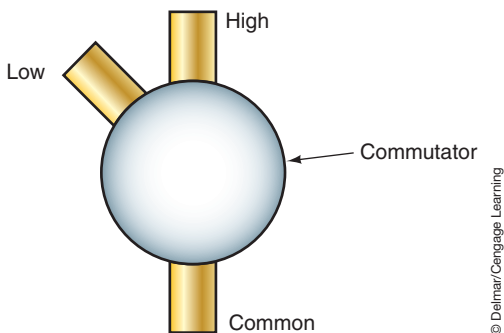

FIGURE 14-10 One style of brush arrangement has the high-speed brush opposite of the common brush.
1. The high-speed and common brushes oppose each other, with the low-speed brush offset (Figure 14-10).